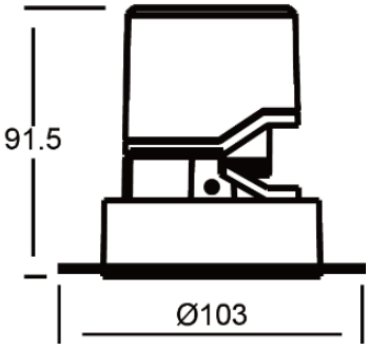

Figure 4
Step 4: Remove the protective film from the lamp (see Figure 4 below);